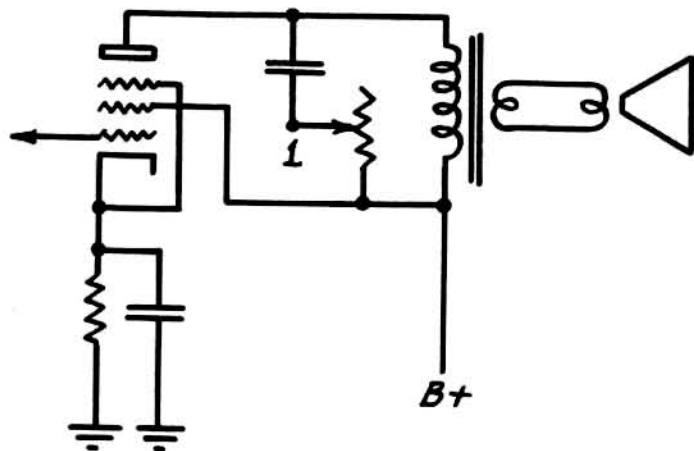

Figure 33
1. In Figure 33, place the a-f probe (green cable) on the moving arm of the tone control "1" and notice whether the audio signal strength changes as the position of the arm is varied. Noise or irregular action is indicated on the channel eye by flickering or abrupt changes in the shadow area. If phones are plugged in the audio channel, the condition of the control can be determined by a listening test.